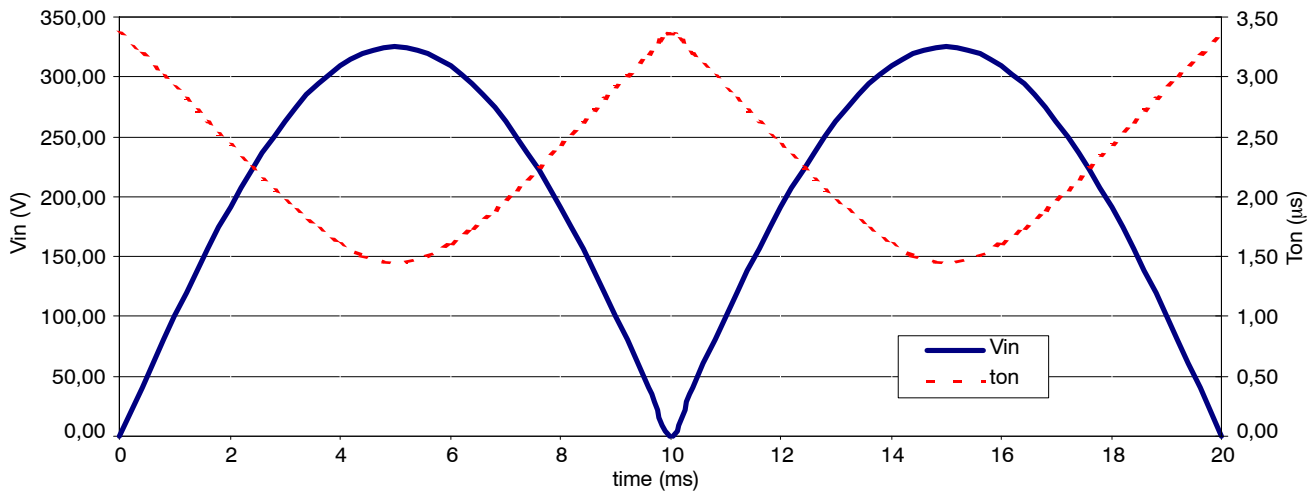
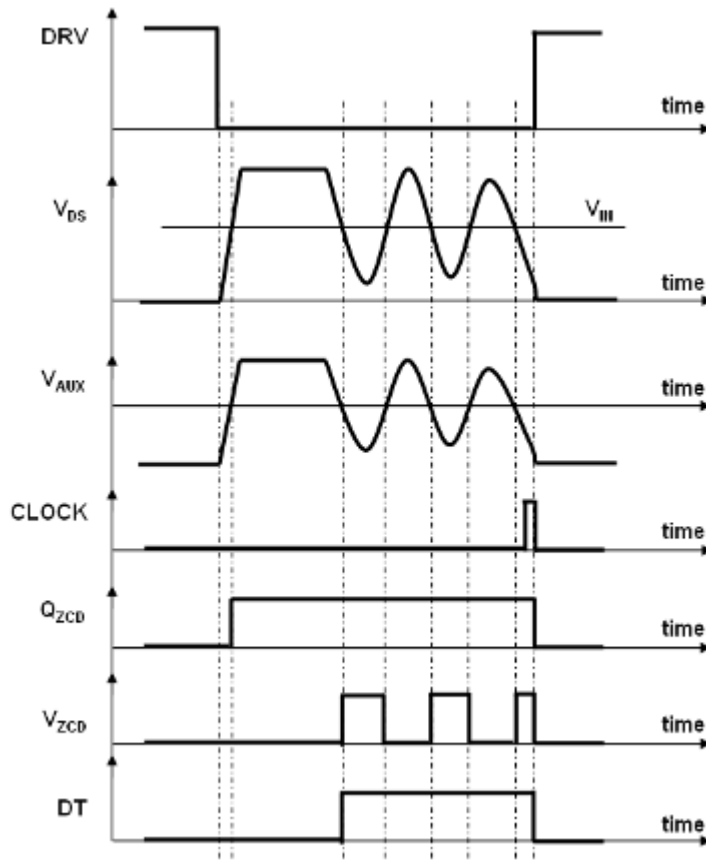

Figure 8. Input Voltage and On-time vs. Time (example with $F_{SW} = 100$ kHz, $P_{in} = 150$ W, $V_{AC} = 230$ V, $L = 200$ μ H)
Figure 12. Zero Current Detection Timing Diagram
Practically, an auxiliary winding in flyback configuration is taken off of the boost inductor and gives a scaled down version of the inductor voltage that is usable by the controller (Figure 12). In that way, the ZCD voltage (“ V_{AUX} ”) falls and starts to ring around zero volts when the inductor current drops to zero. The NCP1631 detects this falling edge and allows the next driver on time.
- However, the coil current can possibly be non zero when the clock signal turns high. The circuit would enter Continuous Conduction Mode (CCM) if the MOSFET turned on in that moment. In order to avoid CCM operation, the clock is prevented from setting the PWM latch until the core is reset (that is as low as “V_{ZCD}” of Figure 8 is low). The clock signal remains high during this waiting phase (refer to Figure 12). Hence the next MOSFET conduction time occurs as soon as the coil